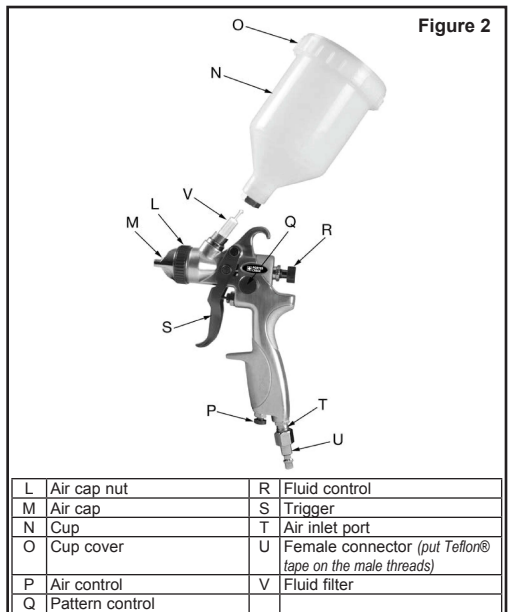

Figure 2
- Install a 1/4" NPT female connector (included in accessory kit) onto the air inlet port of the tool. (see Figure 2). **Note: Use Teflon® Tape on all threaded connections.**
- Insert a fluid filter into the fluid inlet (see Figure 2).
- a. Pattern control knob (see Figure 2) - for a full pattern, turn the knob in a counterclockwise direction and for a round pattern, turn the knob clockwise. This knob is used to create the proper pattern of paint as it is sprayed from the spray gun.
- b. Fluid control knob (see Figure 2) - turn in a clockwise direction to reduce the amount of paint and counterclockwise to increase the amount of paint. This knob controls the amount of paint that is mixed with the air. **NOTE: If the fluid control knob is turned in all the way, the gun will emit only air.**